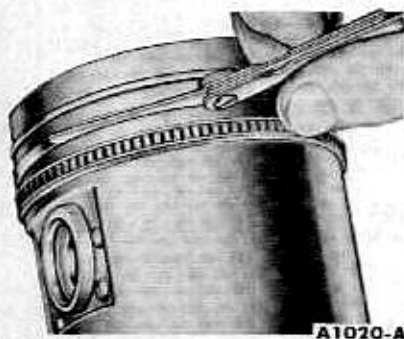

FIG. 20—Ring Side Clearance
6. Check the ring side clearance of the compression rings with a feeler gauge inserted between the ring and its lower land (Fig. 20). The gauge should slide freely around the entire ring circumference without binding. Any wear that occurs will form a step at the inner portion of the lower land. If the lower lands have high steps, the piston should be replaced.